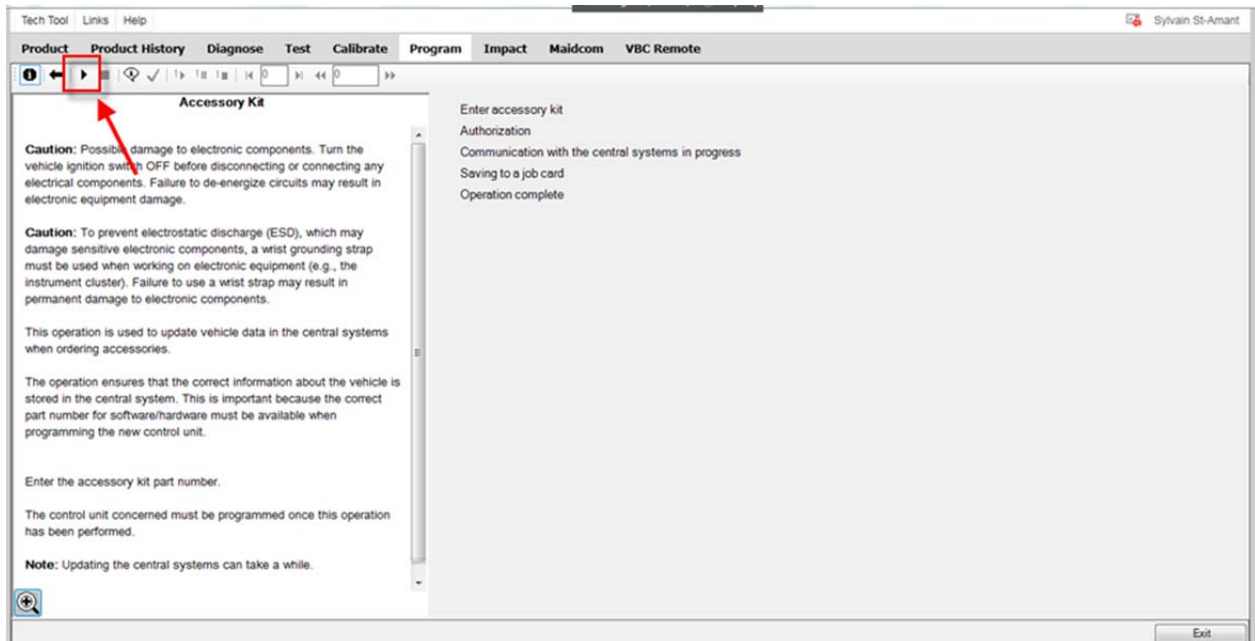

FIGURE 16
4. Click ► (play) (FIGURE 16).